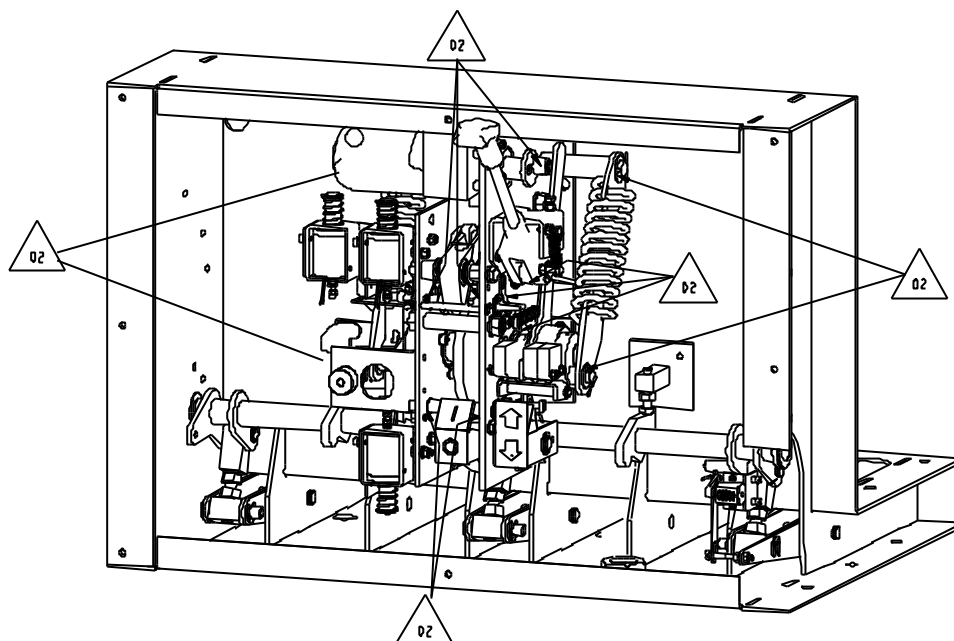

fig. 12
- Lubricate the points marked in fig.12 .
Lubricate with a thin layer of Mobilgrease Special from Mobil the points marked with \triangle_{02} in fig.12.